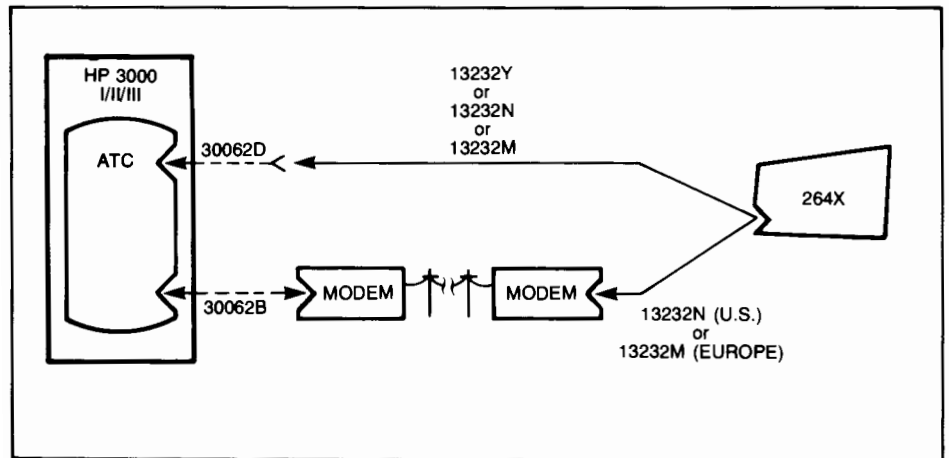

Figure F-4
- BLOCK MODE: UP (OFF) or DOWN (ON)
6. Cables: See figure F-4.